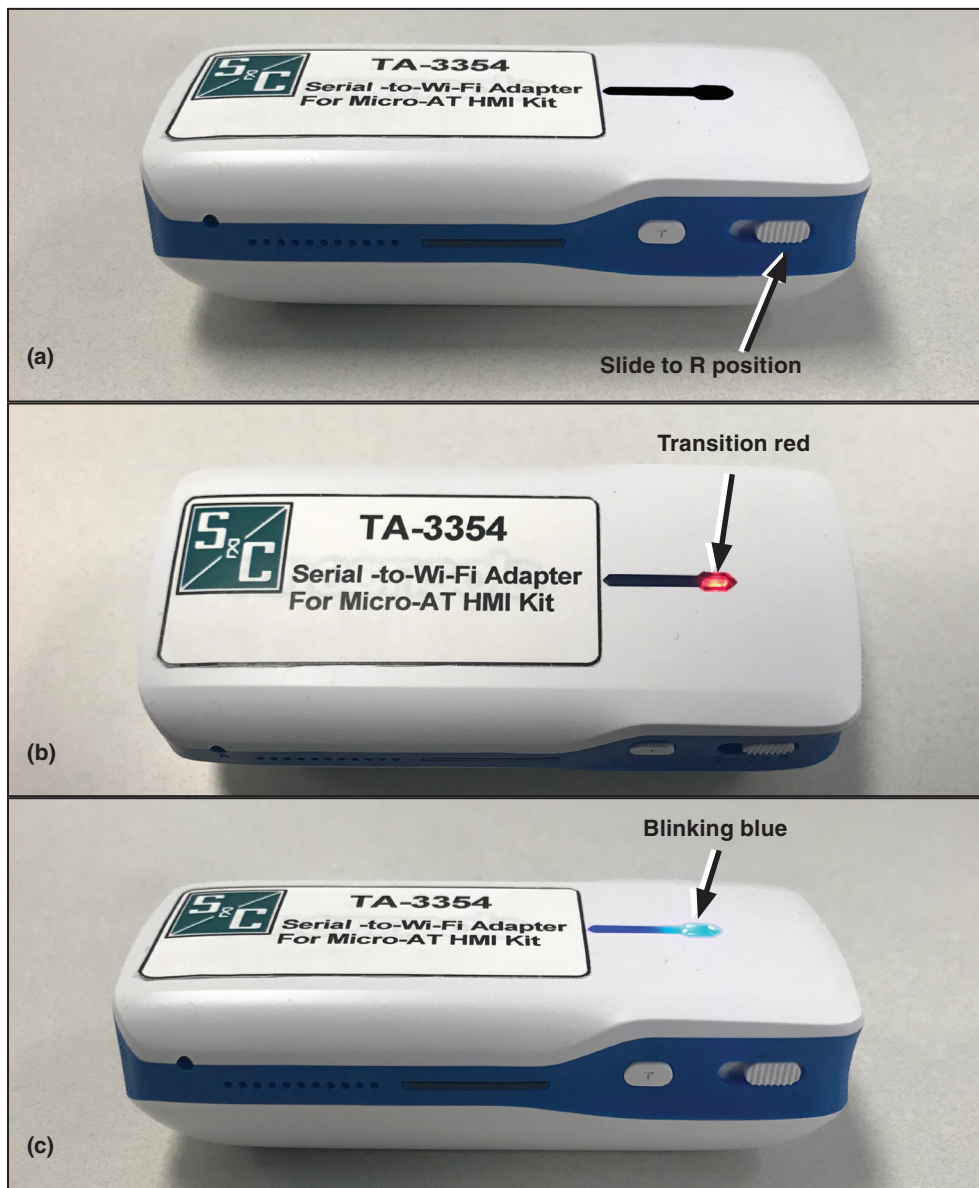

Figure 7. Powering up the adapter for operation.
STEP 1. Power up the Wi-Fi adapter by moving the slider switch to the **R** position. See Figure 7(a). The device takes about 20 seconds to boot. The light on the top will transition from red to blinking blue. See Figure 7(b) and (c). When the light has been blinking blue for about 10 seconds, the device is fully operational.